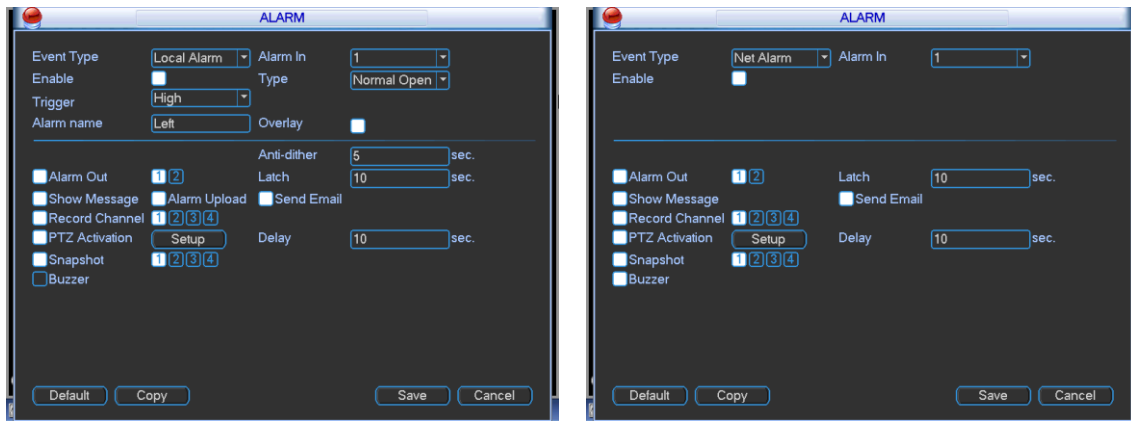

Figure 4-57
- b) In the main menu, from Setting to Alarm, you can see alarm setup interface. See Figure 4-57.